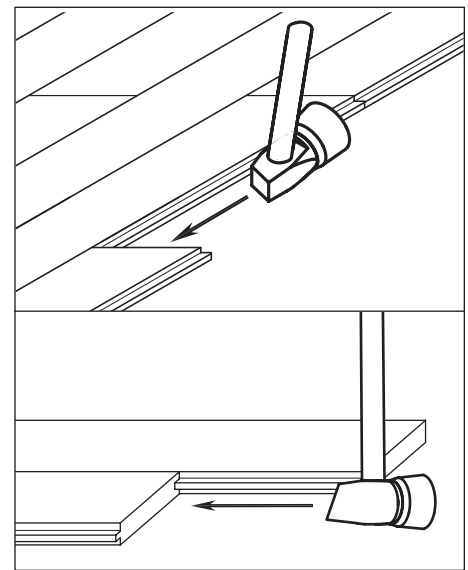

Figure 21 - Rack the board tightly against adjacent board
3. Use the metal end of the mallet to rack the board tightly against adjacent board. The metal end is tapered away from top of flooring to prevent unwanted damage to top surface (see Figure 21).